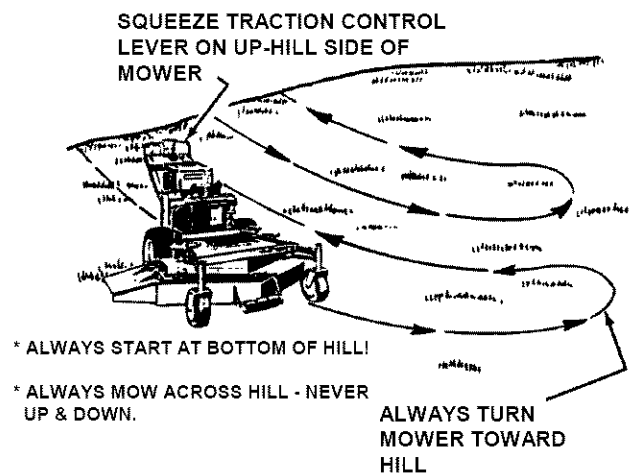

FIGURE 3.7
1. Always mow hillsides starting at bottom of hill. Mow across slopes, never up and down. Exercise **CAUTION** when changing directions on slopes. **DO NOT MOW STEEP SLOPES.** See Figure 3.7.